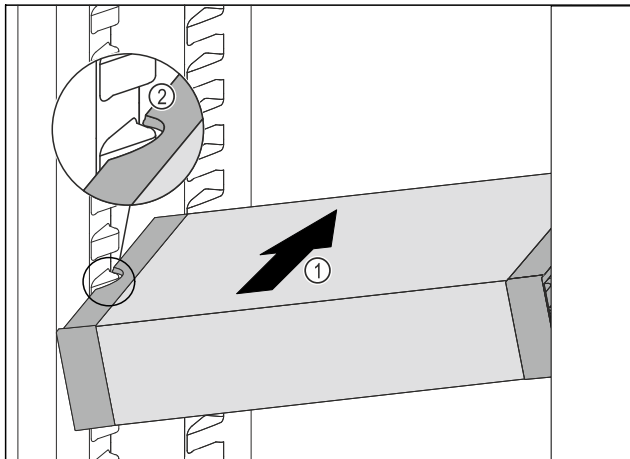

Fig. 148
- ▶ Insert the VarioSafe into the fridge section at an angle Fig. 148 (1) until the recesses in the side Fig. 148 (2) of the VarioSafe are at the level of the support rib in the fridge section.